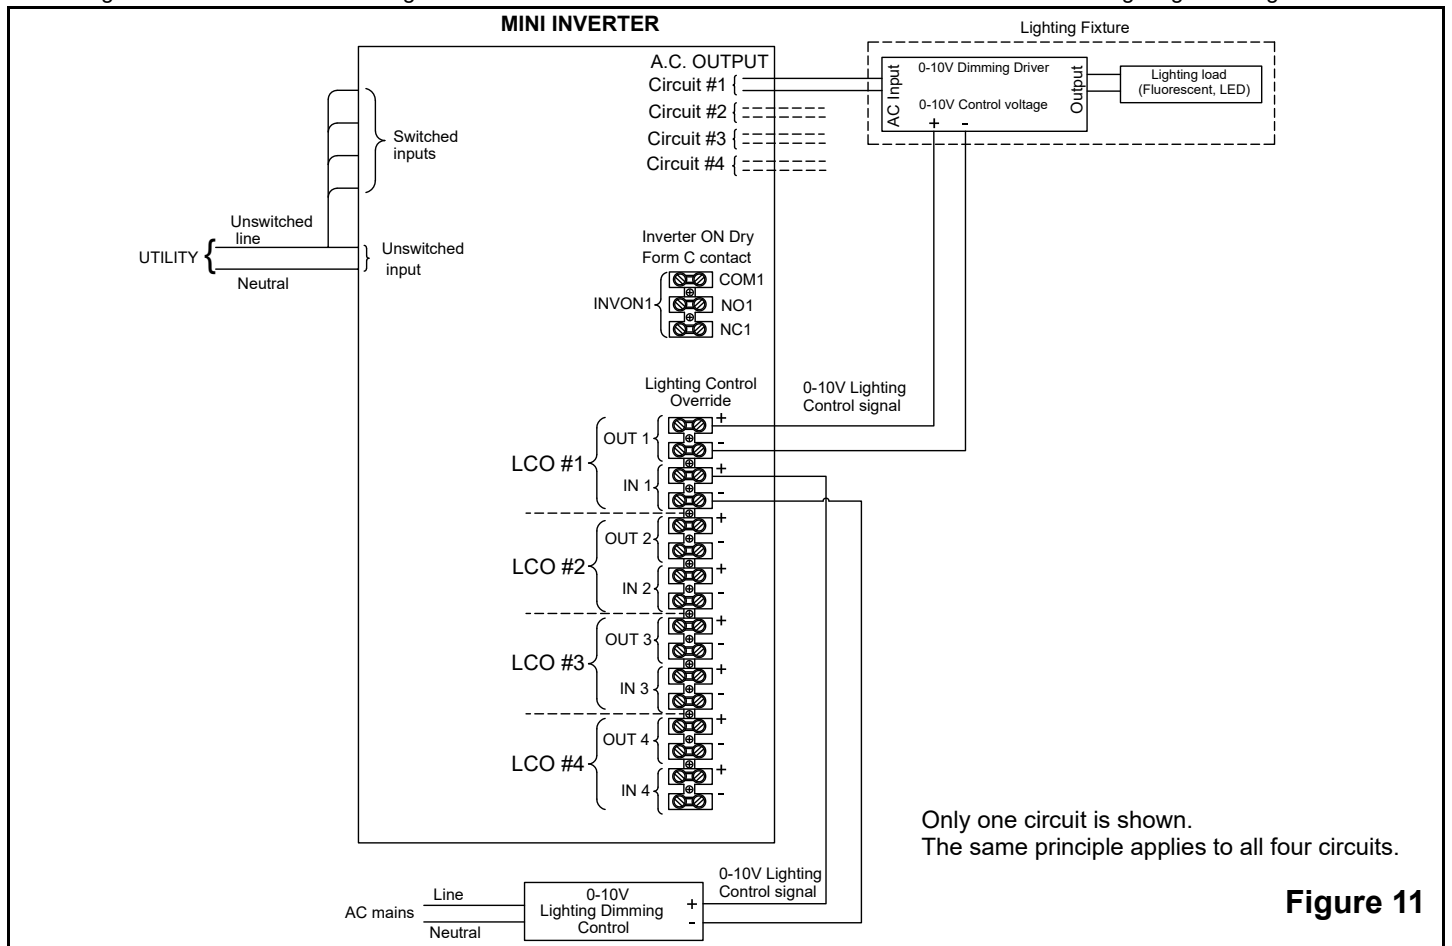

Figure 11
3. Connect the Lighting Control signal cables from the lighting fixtures to the corresponding terminal blocks identified by OUT1, OUT2, OUT3 or OUT4 in the Mini Inverter. Observe the polarity of the cables (*refer to figure 11*). Purple is positive and grey is negative.
The INVERTER-ON Dry Contact is identified as “INVON1”; its position is illustrated in **Figures 11 and 12**.